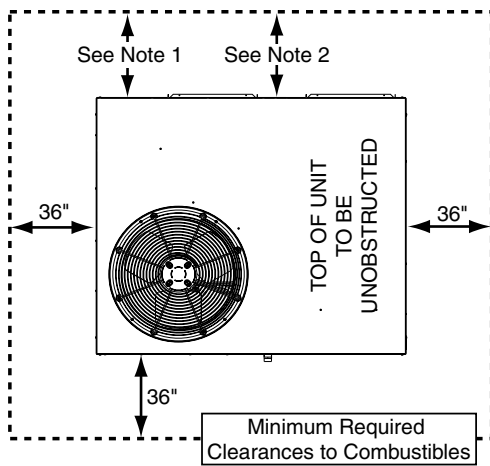

Figure 2. Clearance Requirements
- Sufficient clearance for unobstructed airflow through the louvered control access panel and outdoor coil must be maintained in order to achieve rated performance. See Figure 2 for minimum clearances to obstructions.